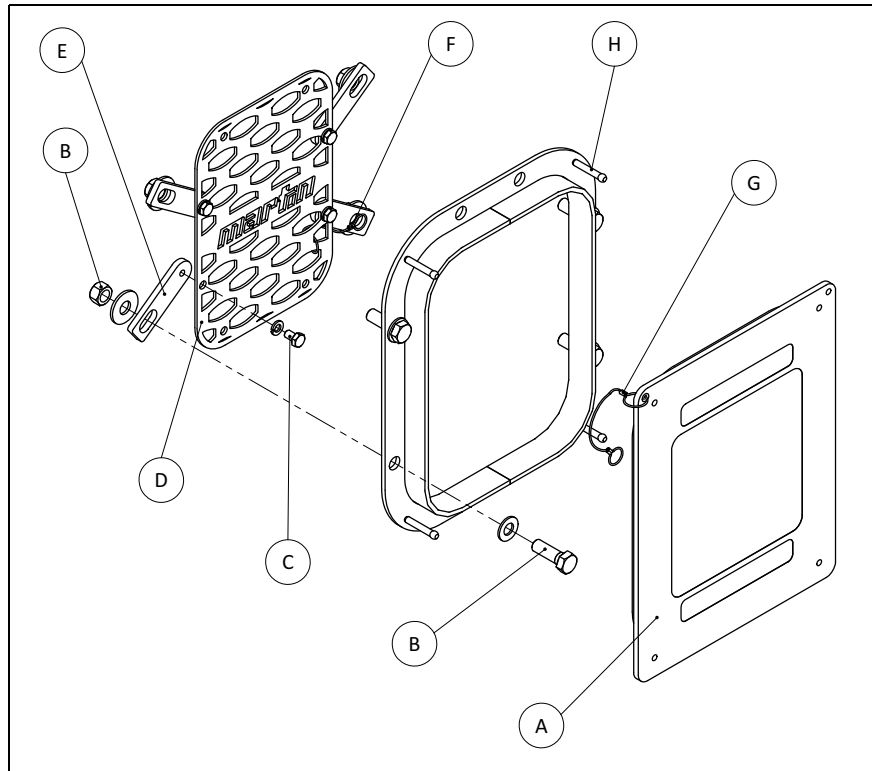

Fig. 3: Installing the Martin® inspection door with grating
2. Push the screws (B, Fig.3) through the boreholes in the door frame (I, Fig.3) and the chute wall.
3. Guide the grating (D, Fig.3) using the fastening clips (E, Fig.3) and the rope wire (F, Fig.3) from within the chute wall onto the previously inserted screws.
5. Place the eyelet of the rope wire (G, Fig.3) of the rubber door (A, Fig.3) onto one of the four screws not already installed.
2. Guide the grating (D, Fig.3) using the fastening clips (E, Fig.3) and the rope wire (F, Fig.3) from within the chute wall.
2. Remove the four screws (B, Fig.3).
3. Attach the rope wire of the grating (G, Fig.3) with one of the screws (C, Fig.3) onto the fastening clips (E, Fig.3).
5. Push the screws (B, Fig.3) through the boreholes in the door frame (I, Fig.3), the fastening clips and the chute wall.
7. Tighten the screws (B, Fig.3).
2. Attach the rope wire of the grating (G, Fig.3) with one of the screws (C, Fig.3) onto the fastening clips (E, Fig.3).